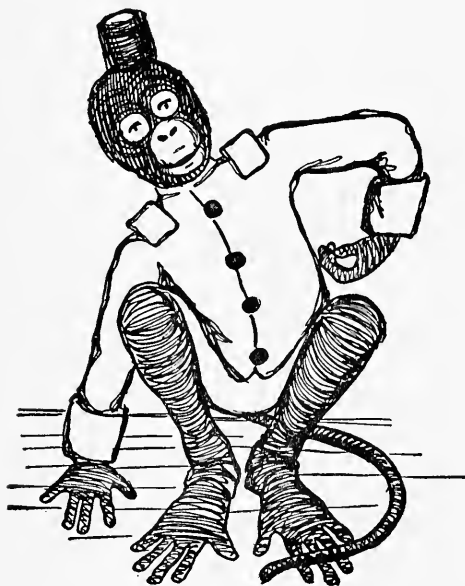
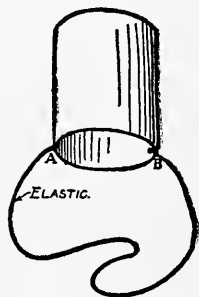

FIG. 283.—“Jocko.”
FIG. 284.—Jocko's Hat.
**A Monkey's Make-up** is shown in Fig. 283. The boy who is most apt at making a monkey of himself should be selected to take the part of this animal. In the first place he requires a red suit, which may be made quickly by sewing red cloth over an old coat and a pair of trousers. Cover the legs with a pair of tan stockings, and slip the feet into a pair of large gloves. The face and hands should be colored, and for this purpose buy some brown grease paint. In rubbing the paint over the face, leave a circle of white around the eyes and mouth, and make a brown mark each side of the mouth to give it a broadened effect. A tight-fitting cap should be made of cloth as nearly the shade of the brown paint as possible, to hide the hair. Figure 284 shows the monkey's hat, consisting of a tomato-can covered with red cloth, which is fastened around the monkey's chin by means of an elastic cord.